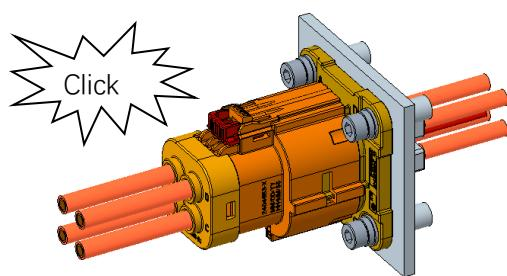

Figure 9
2. Push the plug connector and header connector together fully until they stop (click will be heard) as shown in Figure 9.
如图 9 所示, 将公母端连接器完全推到一起, 直到他们停止 (将听到咔嗒声)。